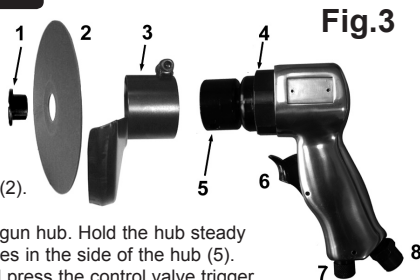

Fig.3
- 4.1.1 Place the guard (Fig.3 - 3) around the gun collar (4). Position the guard with the clamp at the top and tighten the clamp screw.